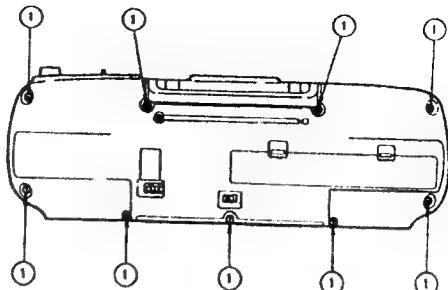

Fig. 2-1-1
◆ Front cabinet ass'y (See Fig. 2-1-1)
- 2) Remove the nine cabinet retaining screws ① from the rear panel. (See Fig. 2-1-1)